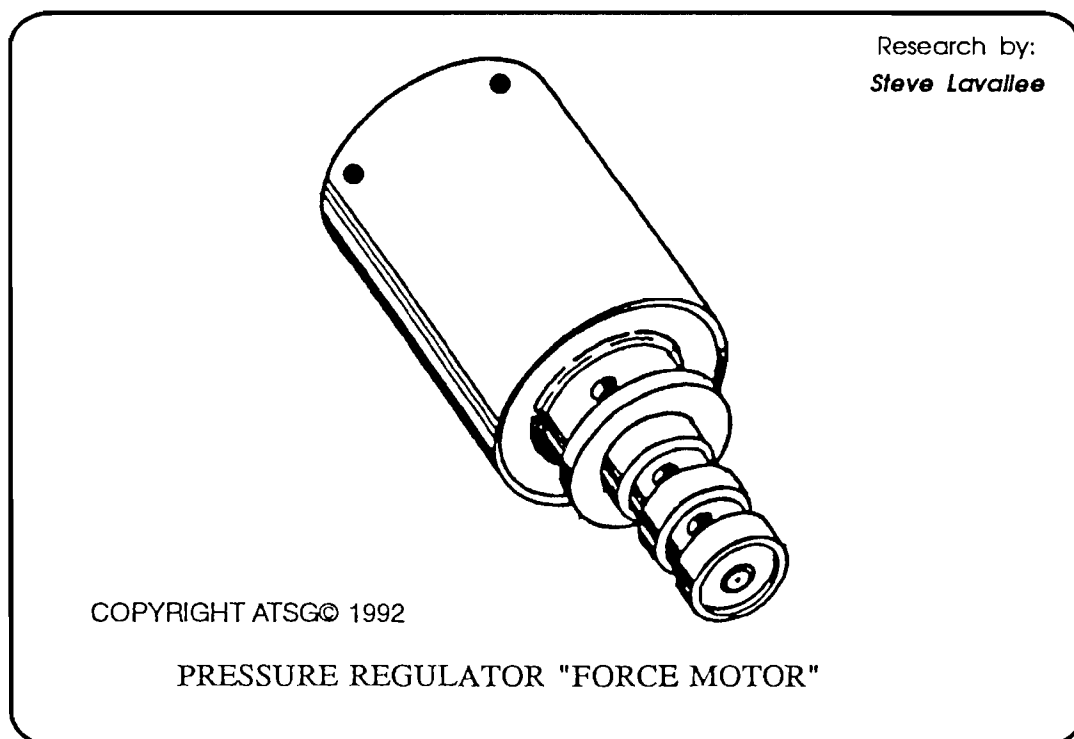

Figure 1.
**CAUSE:** Pressure Regulator "Force Motor" failure (See Figure 1). Extremely high pressure will result. This cannot always be diagnosed with an ohms test as the failure may be mechanical.